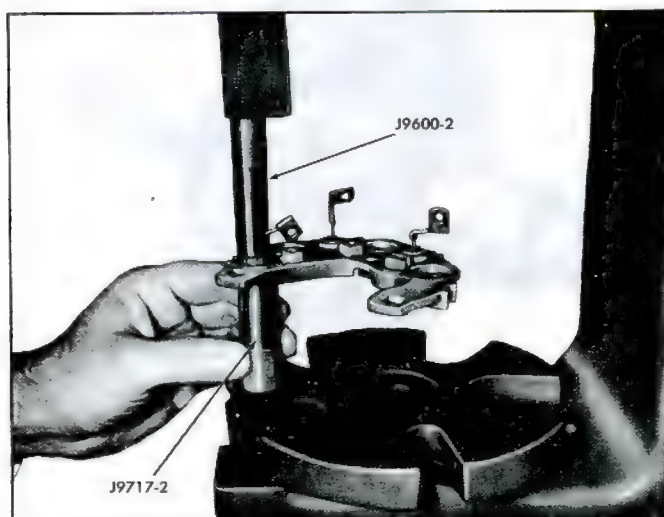

Fig. 19c—Installing Diodes with Press Tools
1. Support end frame with support Tool J-9717-2 and press out diode with diode removal Tool J-9717-1 and an arbor press (fig. 19c).
3. Support outside end of frame around diode hole on a flat, smooth surface and press diode into position with J-9600-2 and an arbor press. Make sure diode is square with end frame and started straight (fig. 19c).